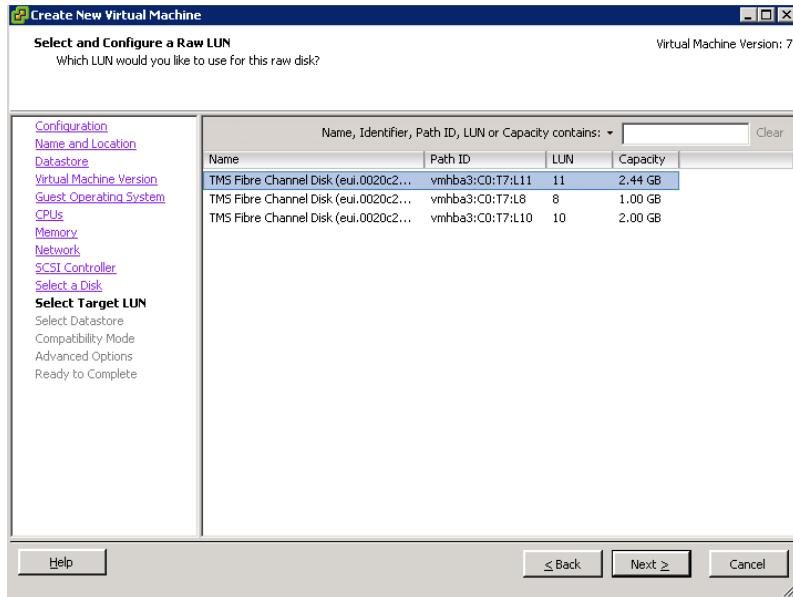

Figure 5-40. Create New Virtual Machine—Select Target LUN
7. Select the LUN to attach to the VM, and then click **Next** (Figure 5-40).